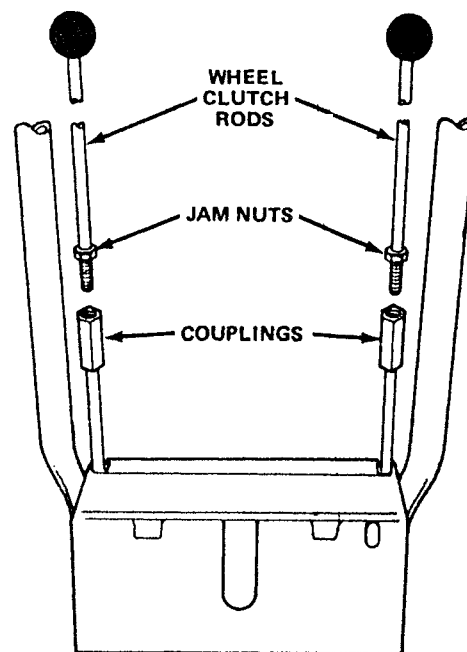

Figure 3
3. Remove couplings from wheel clutch rods. Next, thread couplings fully onto bottom rods (Fig. 3).
4. Thread jam nuts (Fig. 3) completely onto wheel clutch rods; then screw rods into couplings (Fig. 3) until rods "bottom out" in the couplings. Next, tighten jam nuts firmly onto top of couplings.